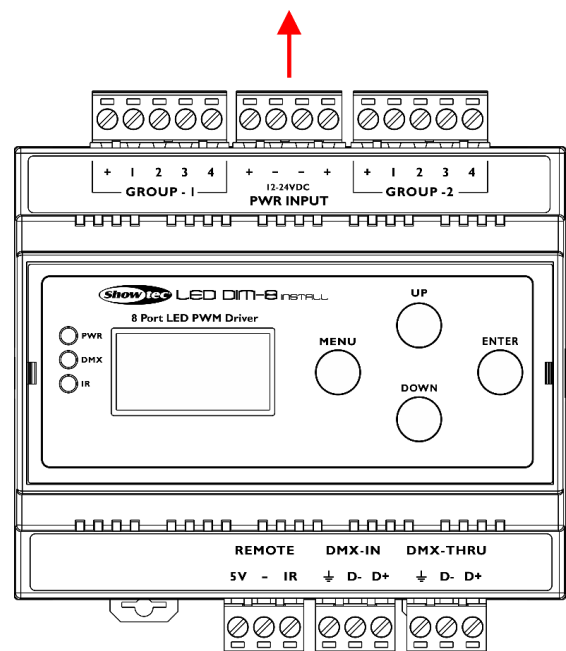

Fig. 05
- 01) Remove the **4-pin Phoenix terminal power connector IN/THROUGH (02)** (see Fig. 05).
- 02) Connect the external power supply to the **4-pin Phoenix terminal power connector IN/THROUGH (02)**. Make sure that the cables are connected correctly.
- 03) Put the **4-pin Phoenix terminal power connector IN/THROUGH (02)** back in device.